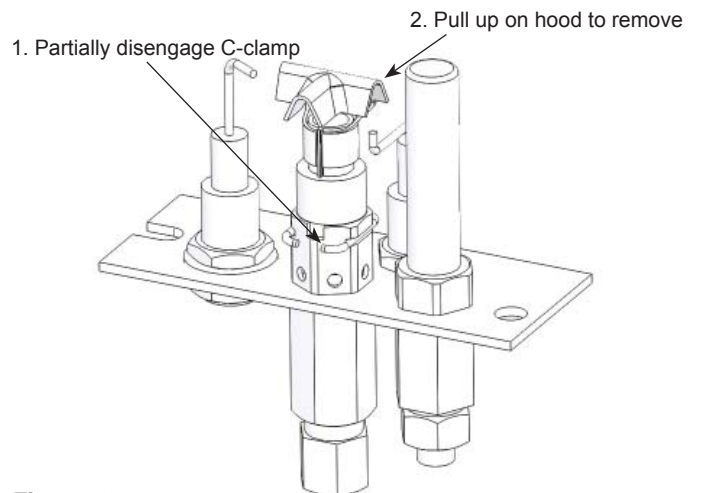

Figure 79
15. Remove the top of the pilot assembly by pulling back slightly on the C-clamp (Figure 79) and pulling straight up on the hood. Remove the pilot orifice using a flat-blade screwdriver and replace with new pilot orifice provided in kit.